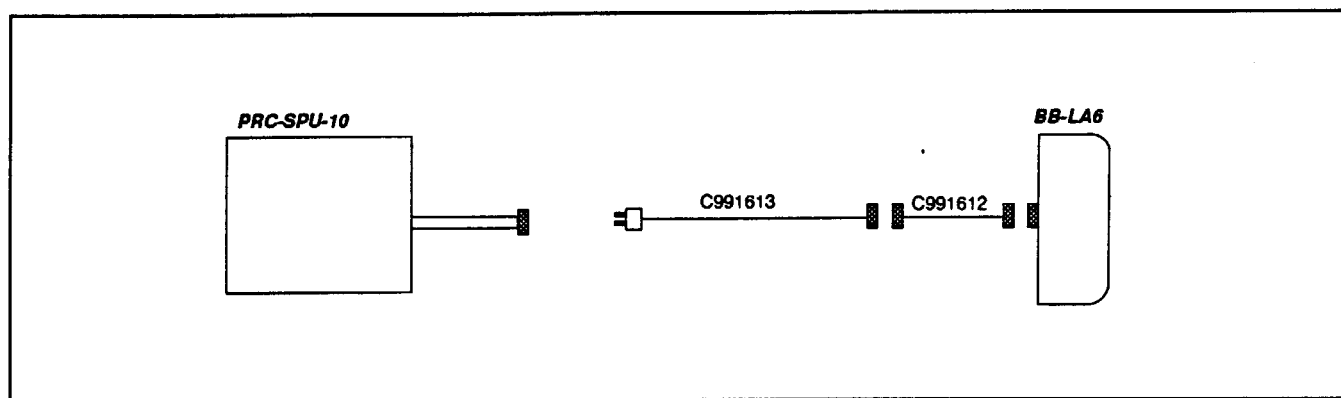

FIGURE B-7.
b. If it is necessary to charge a battery directly from the PRC-SPU-10 (Figure B-7):